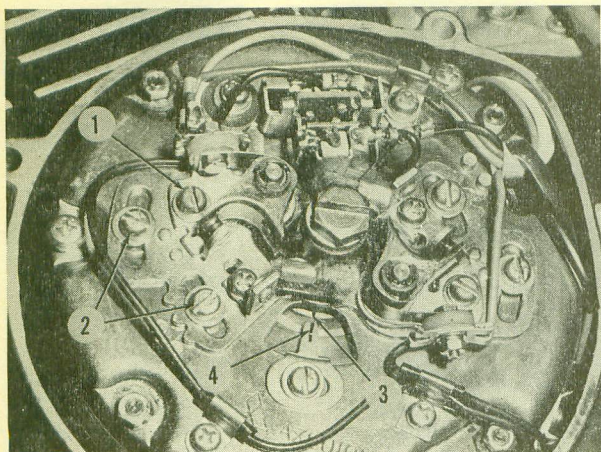

Fig. Y11-3—Engine should be timed with a dial gage to make certain that pointer (4) is in correct position before relying completely on pointer for timing.
Maximum point gap should be 0.3-0.4MM (0.012-0.016 inch) and can be adjusted after loosening screws (1—Fig. Y11-3). Ignition should occur (points just open) when piston is 2.0MM (0.078 in.) BTDC. Timing marks (3 & 4) should align at this point. Ignition timing should be checked separately for each cylinder. Loosening screws (2) will allow movement of breaker base plate and adjustment of timing for one cylinder. Orange wire is for left cylinder.